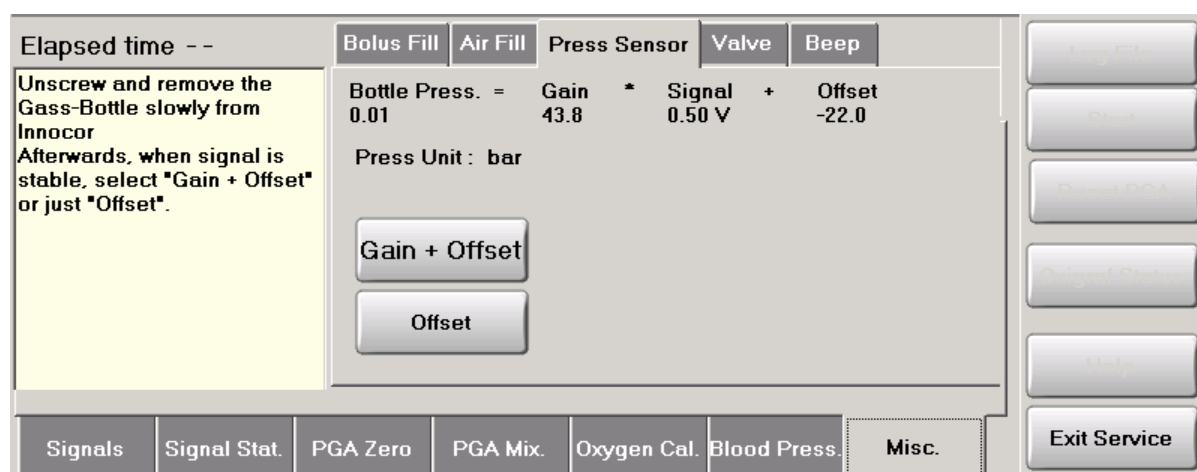

Figure 4.6-1 Menu for gas pressure sensor offset calibration
- Select **Pressure**, see figure 4.6-1.